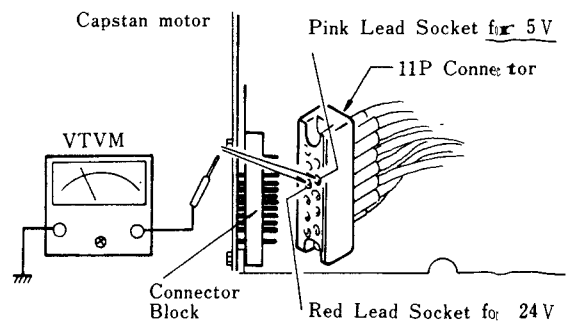

Fig. 8-4 Test Points
2. Disconnect the 11 pin connector from the motor. See Fig. 8-4.